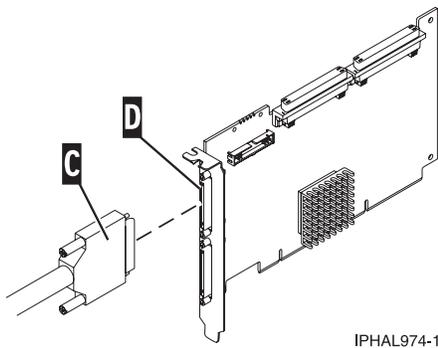

Figure 72. SCSI cable to SCSI interface card
3. Install the other end of the SCSI cable C to the SCSI adapter D on the server. For more details, see Figure 72.